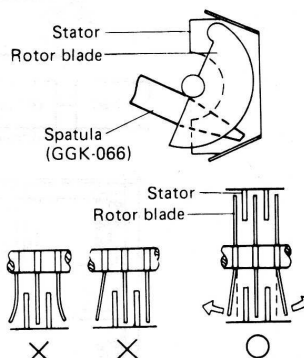

Fig. 7-2 Adjustment of tuning capacitor
- The tuning coil in the FM front end does not have an adjusting core. Consequently, tracking adjustment at 90MHz are performed by regulating the gap between rotor and stator of the tuning capacitors (VC1, VC2, and VC3). The expression "adjust VC (VC1, VC2, and VC3)" found in the text means that the two outer rotor blades of each of these tuning capacitors are to be extended outwards with spatula (Part No. G GK-066) as shown in Fig. 7-2.